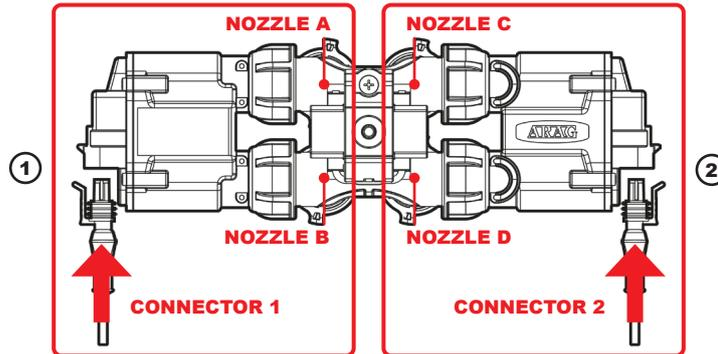

Fig. 117
- 1 Connect in sequence **ONLY SELETRON NOZZLE HOLDERS A AND B**, from left to right until the end of the boom (**connector 1** in Fig. 117).